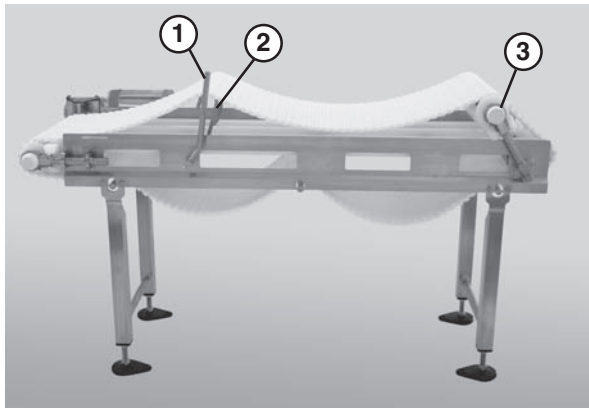

Figure 53
2. Use the lifter handle (**Figure 53, item 1**) to raise the lifters (**Figure 53, item 2**) and raise the tip up tail (**Figure 53, item 3**).